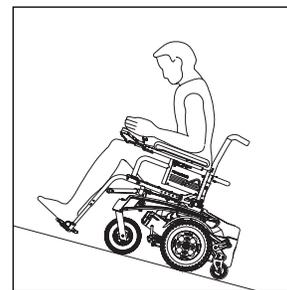

Figure 1
4. Lean or press your body uphill. This will help adjust for a change in the centre of balance caused by the slope (Fig. 1).